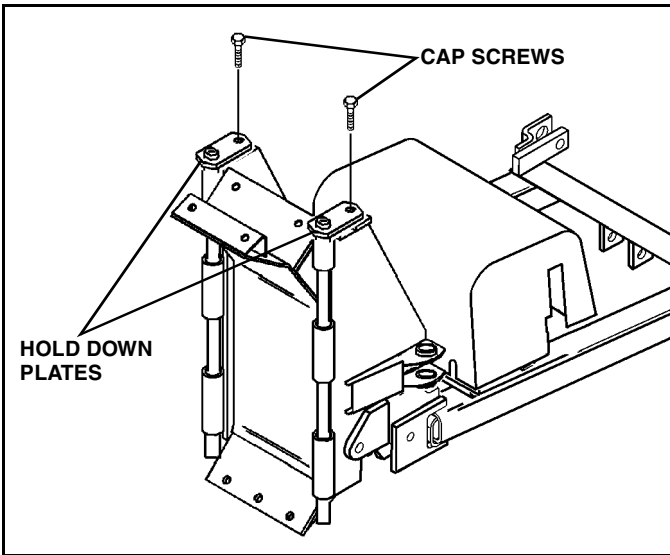

Figure 1-2
2. Remove the cap screws from the hold down plates at the top of each of the two wing pivot shafts and then remove the pivot shafts from the center blade assembly. (See Figure 1-2)